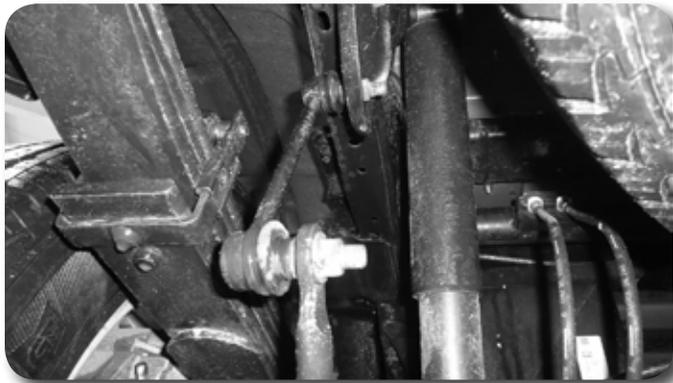

Figure 17
37. Remove the factory sway bar links **Figure 17**. Discard hardware and links.